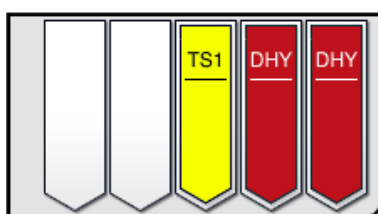

Fig. 85
- After a rack has run through the staining process, it is transported into the unload drawer (→ "Fig. 19-4") and placed in an available position (→ "Fig. 85"). The user is informed of this by an information message and a signal tone.